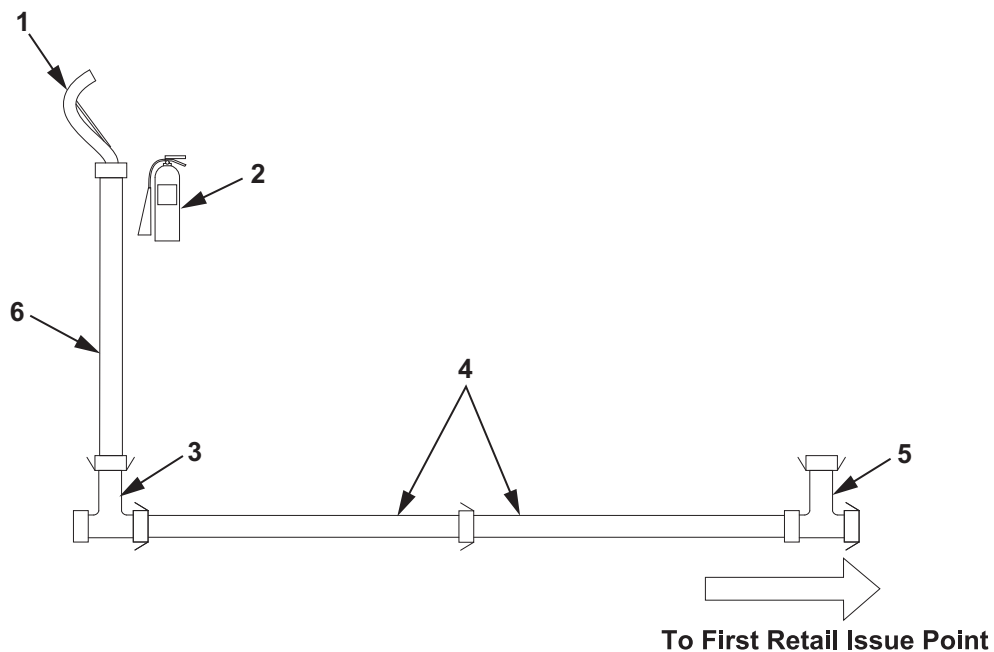

Figure 15. Installation of Second Retail Issue Point.
19. Connect the sections of 2 in. X 50 ft discharge hose (Figure 15, Item 4) to the 2 in. dry-break tee assembly (Figure 15, Item 5).
21. Connect the 2 in. dry-break tee assembly (Figure 15, Item 3) to the end of 2 in. X 50 ft discharge hose (Figure 15, Item 4).
23. Connect the section of 2 in. X 50 ft discharge hose (Figure 15, Item 6) to the 2 in. dry-break tee assembly (Figure 15, Item 3).
24. Connect a D1 nozzle (Figure 15, Item 1) to the section of 2 in. X 50 ft discharge hose (Figure 15, Item 6).
26. Ground the D1 nozzle assembly (Figure 15, Item 1).
27. Position nozzle stand and ground rod assembly at end of discharge hose (Figure 15, Item 6).
29. Position the fire extinguisher (Figure 15, Item 2) adjacent to the end of the 2 in. X 50 ft discharge hose (Figure 15, Item 6).